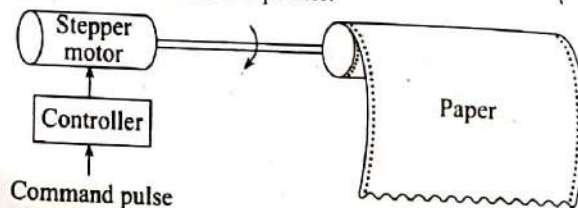

Fig. 1 : Paper driving using stepper motor.
- Fig. 1 shows a simple application of a stepper motor in the paper drive mechanism of a printer.